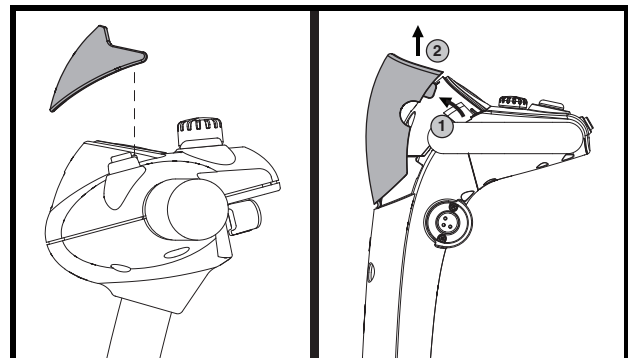

Figure 12. Tiller Console Visor
1. Gently pull the top of the visor away from the tiller console, then slowly lift it up and away from the tiller console. See figure 12.